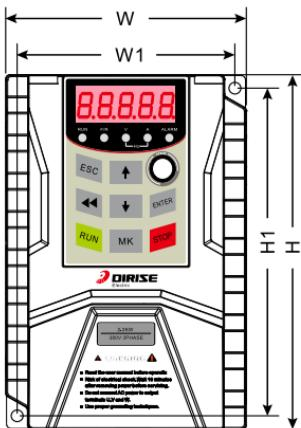

Fig 3–3 Screw fixation and installation method
The product is installed by two holes in opposite corners. Size of installation hole should be subjected to housing dimension and installation dimension. Make 2 holes on installation surface, align inverter with the holes, insert bolts and tighten the bolts. The screw choose combined screw with spring washer and flat pad.(Length 12 mm ,locking torque $1\text{Nm} \pm 10\%$).Installation method is shown in Fig 3–3.
A. Method of keypad disassembly is shown as fig 3–4:press keyboard elastic clasp in direction 1 and lift keypad in direction 2.
B. Method of keypad installation is shown as fig 3–5:Flat the keypad into the keypad slot and press the keypad in direction 1 until you hear the ‘clicking’ sound, namely the keypad is flush with the front of machine surface.